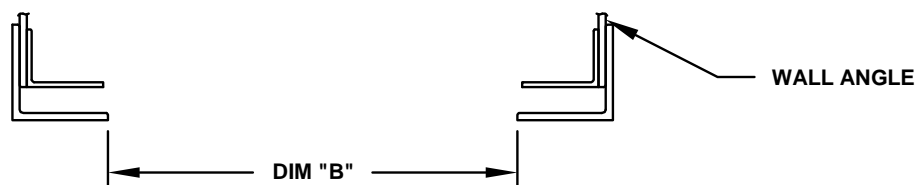

FIG 6
- 3) Check the Guide opening measurement. Locate a mark on the floor at the tip of each guide and measure. Guide measurement must equal Dim "B". (See FIG 6) THIS IS CRITICAL If guide opening does not equal Dim "B", STOP and redo steps 1 and 2.